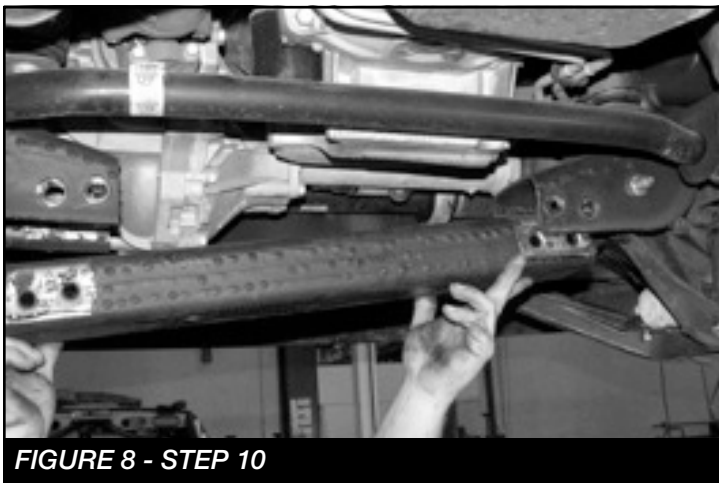

FIGURE 8 - STEP 10
10. Remove the factory rear cross member and retain factory hardware. **SEE FIGURE 8**